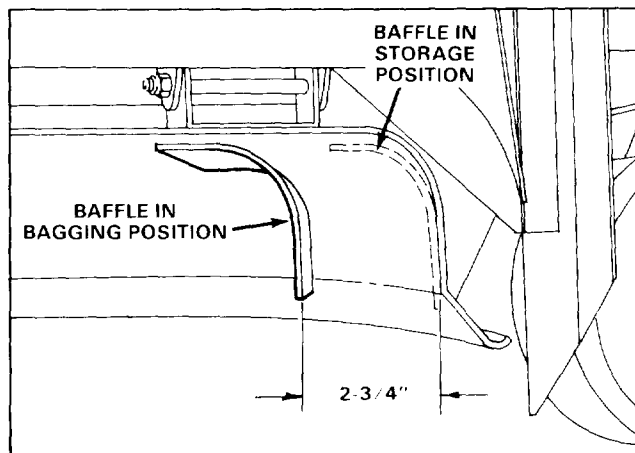

Figure 1
1. Position baffle inside cutting deck opening so end is aligned with edge of deck opening and against front wall and ceiling. Clamp baffle to front wall of deck in storage position (Fig. 1).
2. Mark and drill (2) 11/32" dia. holes in top of deck. Secure inside end of baffle to deck with a 5/16-18 x 3/4" lg. sems screw.
3. Pivot outside end of baffle rearward until there is a distance of 2-3/4" between baffle and front wall of deck (Fig. 1).